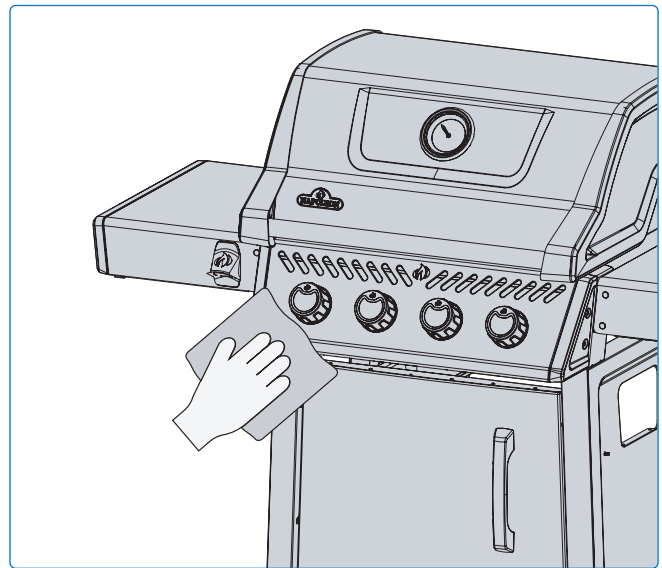

Fig. 24
- Stainless steel parts will discolor over time from heat, developing a golden or brown hue. This is normal and does not affect grill performance (**Fig 24**).